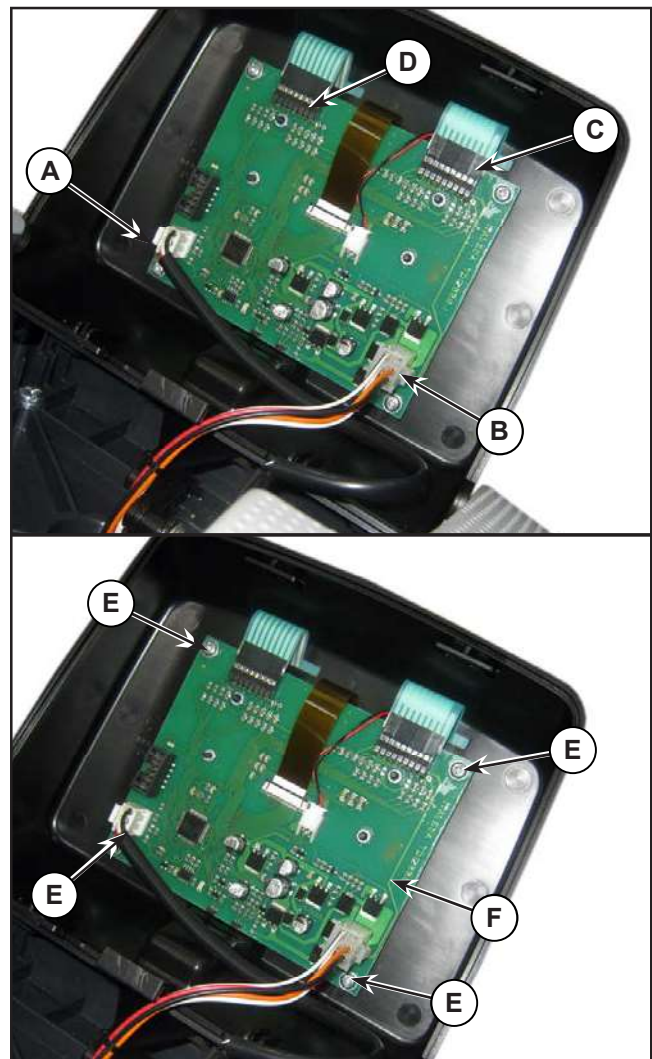

Figure 16:
6. Disconnect the following connections sequentially (Figure 16):
- (A) Speed potentiometer connection (J4).
- (B) Display controller power supply connection (J1).
- (C) Flat connection (J2).
- (D) Flat connection (J3).
7. Unscrew the 4 screws (E), then remove the display controller (F).